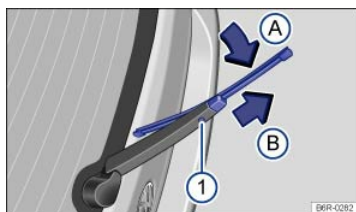

Fig. 170 Changing the rear window wiper blades.
- Press and hold the release button ⇒ *Fig. 170* .
- While lifting the wiper blade in the direction of the wiper arm ⇒ *Fig. 170* (arrow ) , pull off the wiper blade in the direction of the arrow . This may require moderate force.
- Install a new wiper blade of the **same length and type** onto the wiper arm by pushing in the opposite direction of the arrow ⇒ *Fig. 170*  until it latches.